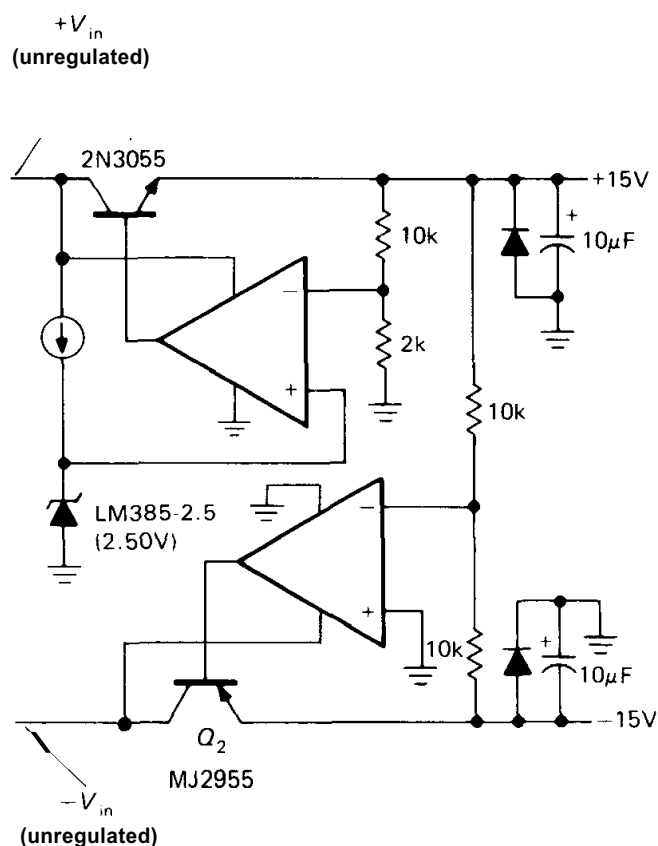

Figure 6.34. Dual-tracking regulator.
□ **Dual tracking regulators.** Given the need for regulated split supplies, you might wonder why there aren't "dual 3-terminal regulators." Wonder no more – they exist and are known as "dual tracking regulators." To understand why they have such a complicated name, take a look at Figure 6.34, which shows the classic dual tracking regulator circuit. Q_1 is the pass transistor for a conventional positive regulated supply. The positive regulated output is then simply used as the reference for a negative supply. The lower error amplifier controls the negative output by comparing the average of the two output voltages with ground, thus giving equal 15 volt positive and negative regulated outputs. The positive supply can be any of the configurations we have already talked about; if it is an adjustable regulator, the negative output follows any changes in the positive regulated output. In practice, it is wise to include current-limiting circuitry, not shown in Figure 6.34 for simplicity.